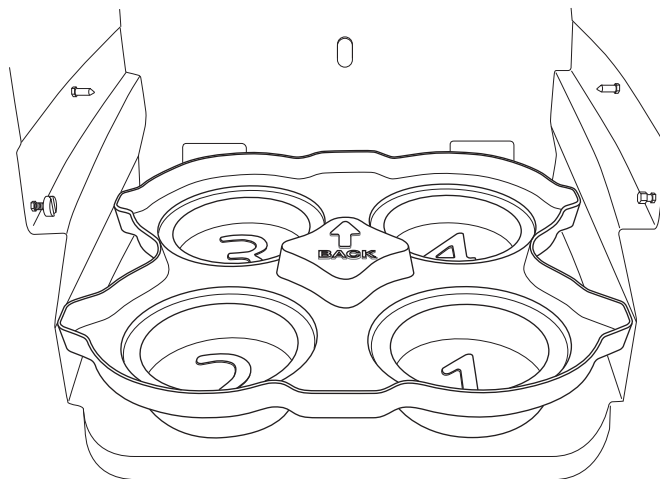

Figure 2-5 Installing the standard locating base
2. Slide the locating base into the bottom of the refrigerated compartment (Figure 2-5). Note that the arrow must be pointing toward the back of the refrigerator.
2. Slide the standard locating base into the bottom of the refrigerated compartment (Figure 2-5). The arrow must point toward the back of the refrigerator.